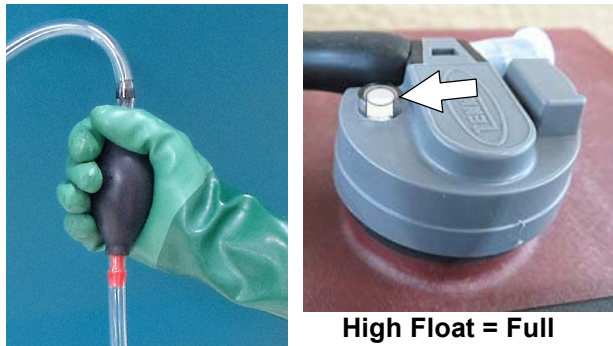

FIG. 91
- Squeeze the bulb on the hand pump hose until firm. The indicator float will rise when full (Figure 91).